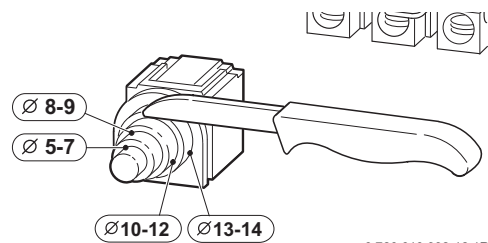

Bild 27
- ▶ To maintain the splash-proof (IP) design: cut the cable grommet hole size to match the diameter of the cable, see fig. 27.